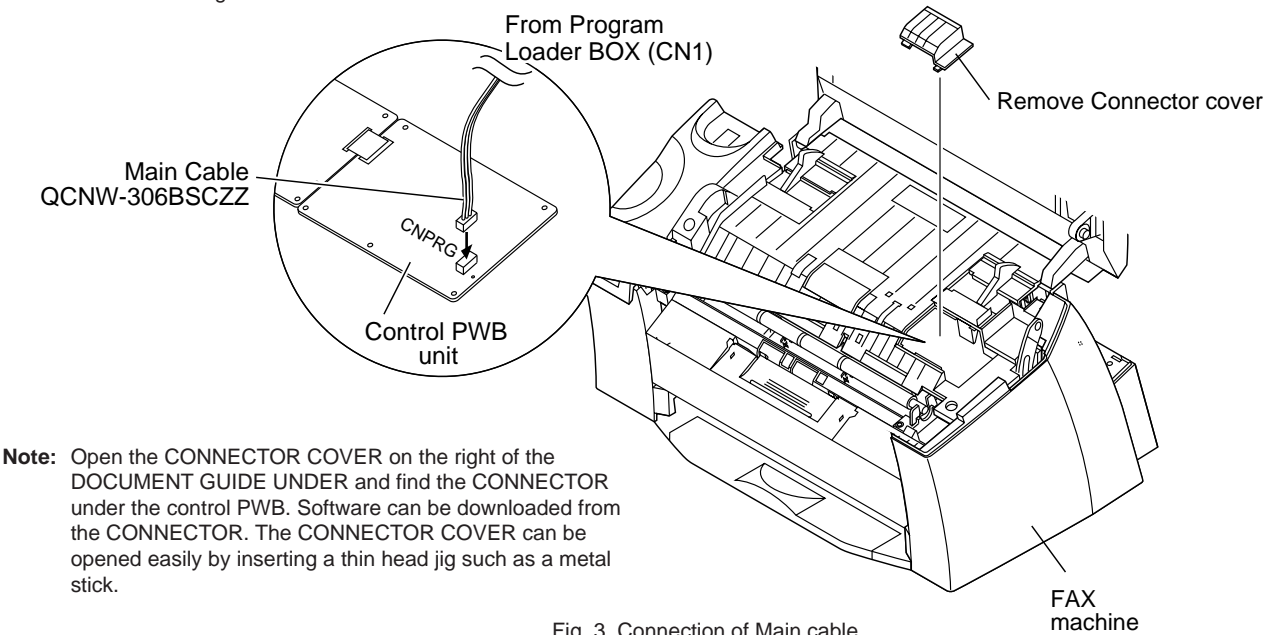

Fig. 3. Connection of Main cable
- 3\*: Perform the procedure ③ before ④. (Turn on the Program loader BOX and the FAX machine before connecting Main cable and the FAX machine.)
- Connect one end of Main cable to the connector of the Control PWB connector for the FAX machine (CNPRG) (refer to Fig. 3), and the other end to CN1 of Program loader BOX.
Connect one end of Main cable to the connector of the Control PWB connector for the FAX machine (CNPRG) (refer to Fig. 3), and the other end to CN1 of Program loader BOX.